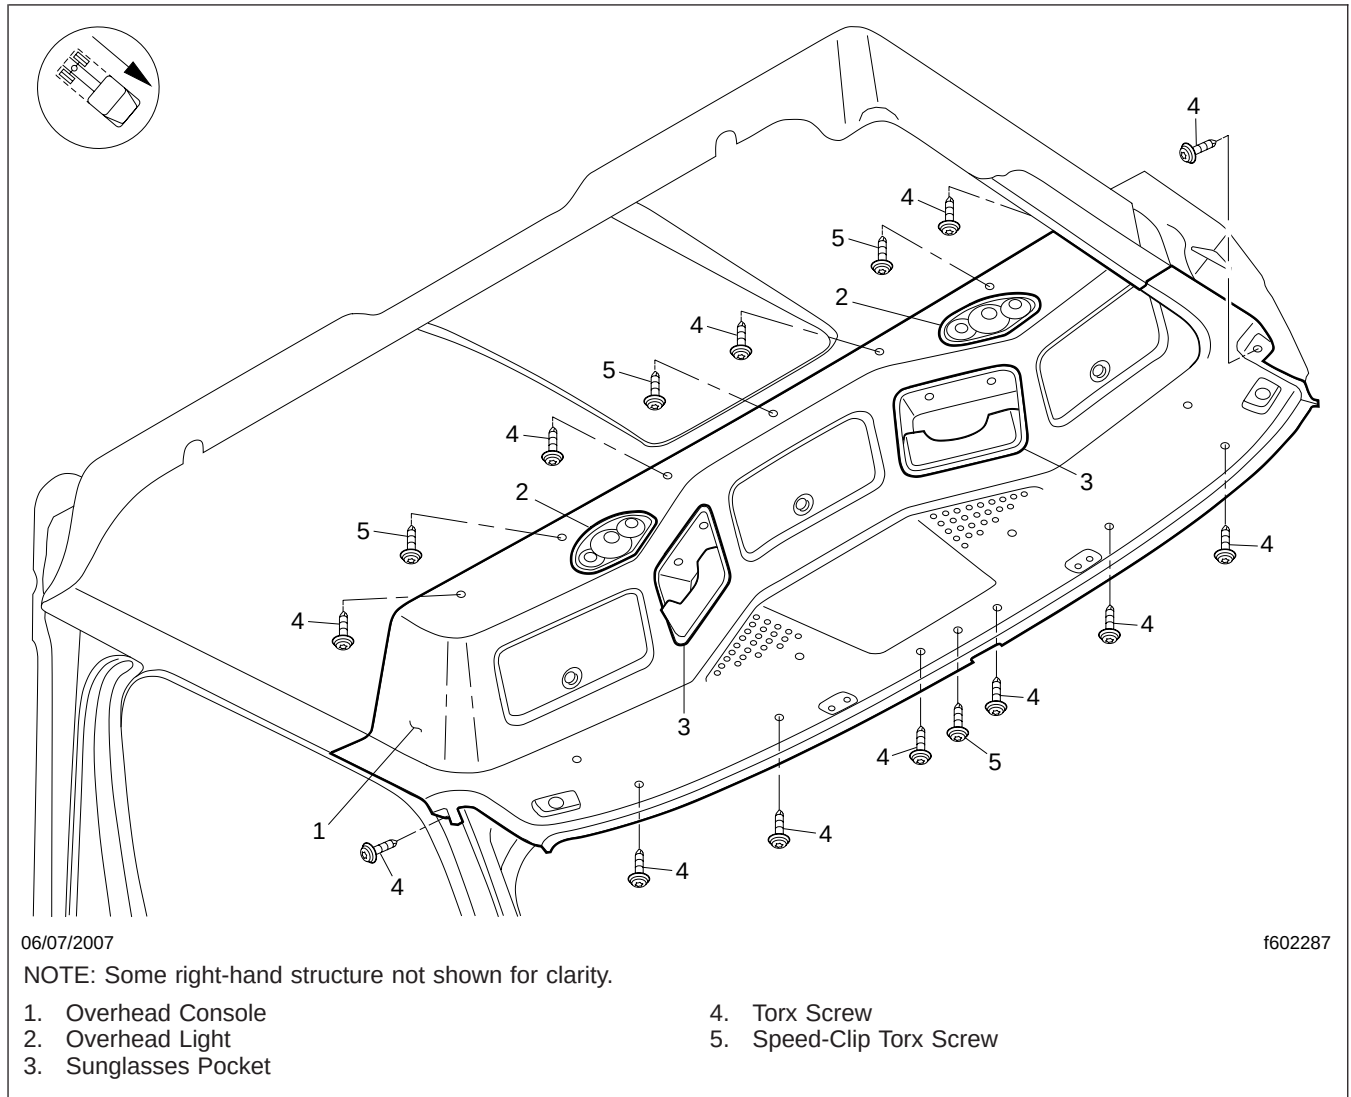

Fig. 1, Overhead Console Installation
13. Attach the sleeper switch panel wiring cover to the inside of the cabinet with two Torx screws; see Fig. 1.
To gain access to the air horn mechanism and the marker light wiring, the overhead console has to be removed. Removal of the overhead storage bins requires removal of the console as well; see Fig. 1.